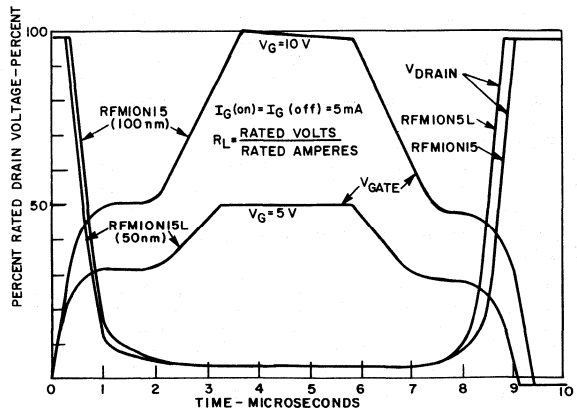

Fig. 5 - Characterization curves for representative devices driven from a current generator.
Fig. 5 presents the curves for the RFM10N15 and RFM10N15L when each is driven from a current generator whose I_{g1} = I_{g2}, with gate-voltage limits of zero and 10 or (5) volts. The drive current is kept the same for both devices in this case even though the L²FET receives less drive power or energy. The value for I_{g1} and I_{g2} was chosen as 5 mA; the time scale is 1 μs/division.
The following discussion relates the prior model discussion to the waveforms of Fig. 5. The discussion begins with the gate voltage at +5 or +10 volts and the gate current equal to zero. This condition corresponds to saturated behavior, where the drain current is approximately equal to I_D(max) and the drain voltage equals I_D(max) times r_{DS}(on).